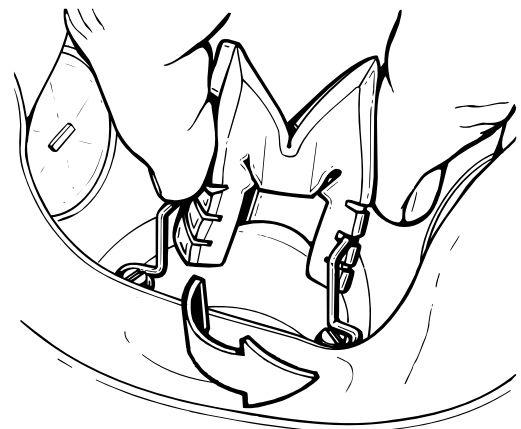

Fig. 25 - Removal of Push Pad
5. Squeeze together both sides of the push pad(11), and twist it free of the support(10) to remove (see Fig. 25). Examine the condition of the push pad, and set it aside if it is found to be in reusable condition.
6. Carefully remove both of the non-return valve retainers(13) from the oral/nasal inner mask(15). Remove and discard each diaphragm(14) and replace with new. Be careful to avoid stretching the new diaphragms, and check each one to ensure it is seated evenly over its retainer.